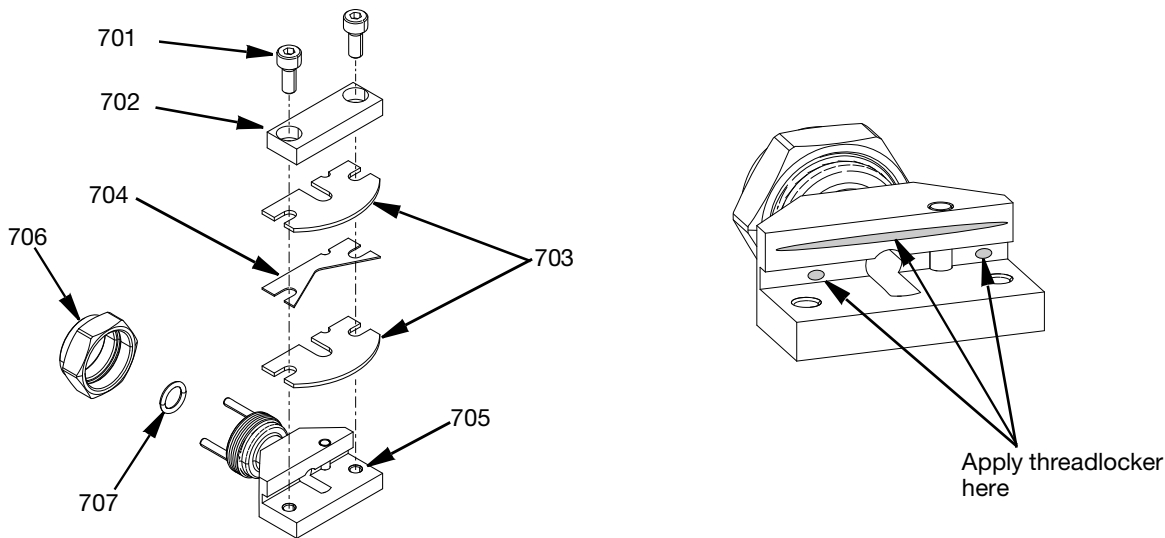

FIG. 41
1. Apply Blue, Medium strength thread locker used for this assembly is Loctite[®] 242 or equivalent to the surface shown in FIG. 41.
2. Place sandwiched pieces against the step of the housing nozzle (705) lining up the notches with the locating pin in the housing nozzle.
3. Place the clamp (702) with the fluid passage notch facing the fluid passageway and tighten down with two M4 SHC screws(701). Torque to 29.2 in-lb (3.3 N•m). See FIG. 41.